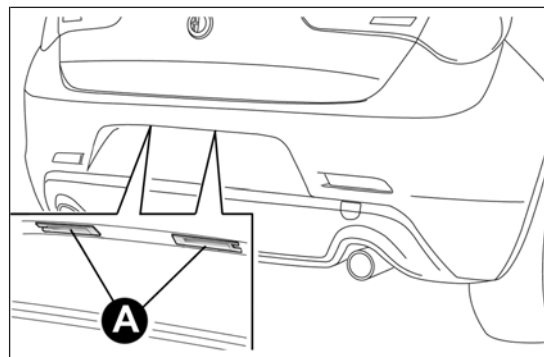

fig. 148
- remove the number plate light units fig. 148;